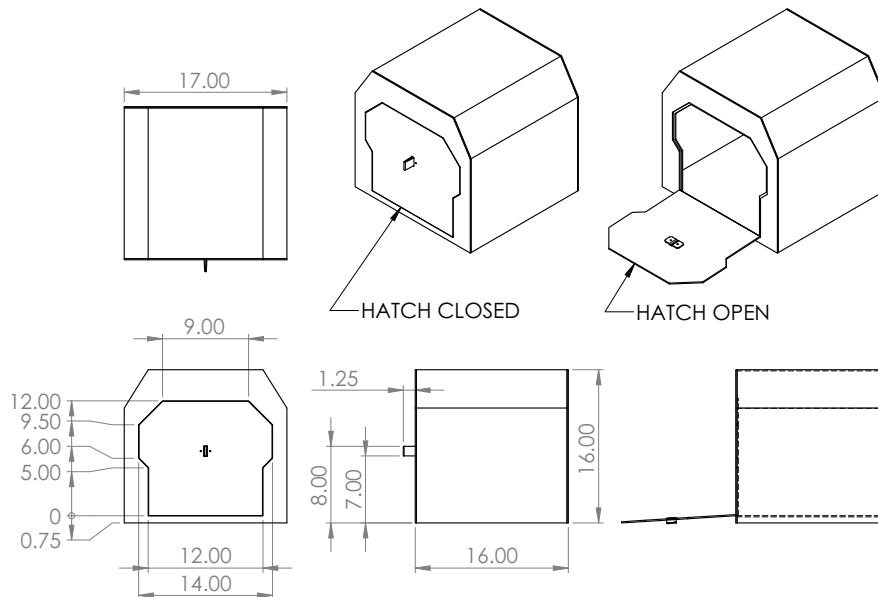
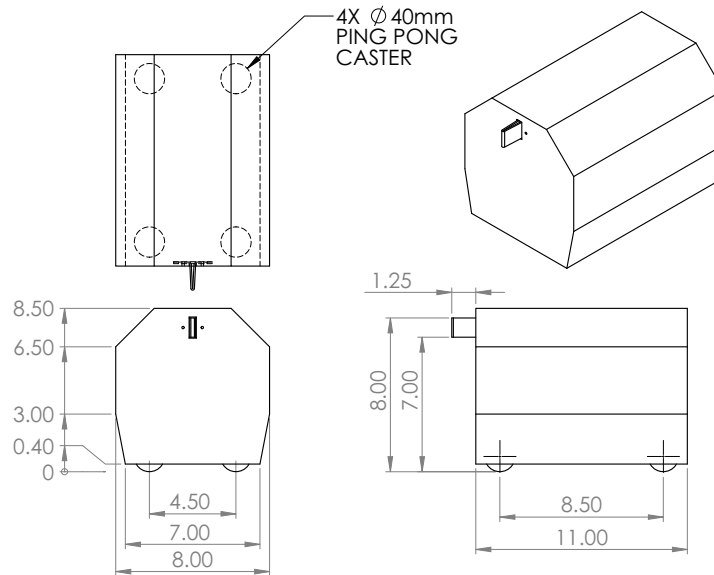

Fig 1 Airlock Hatch
Fig 2 Survival Chamber
- 19. Each ROAMER should be equipped with a gripper to enable it to pull off hatches and to grab the miners' survival chambers. The handles for the hatches and survival chambers are shown in Fig. 1 & Fig. 2.